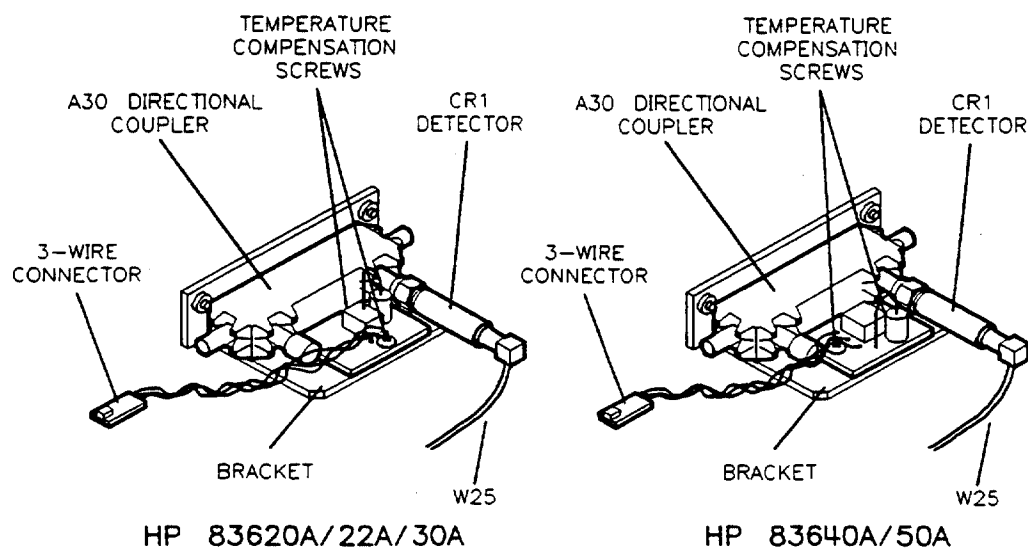

Figure 7-42. CR1 Detector/Temperature Compensation Assembly
2. Remove detector CR1 from directional coupler A30 (Figure 7-42).
6. Remove the two screws that attach the temperature compensation assembly to the bracket (Figure 7-42).